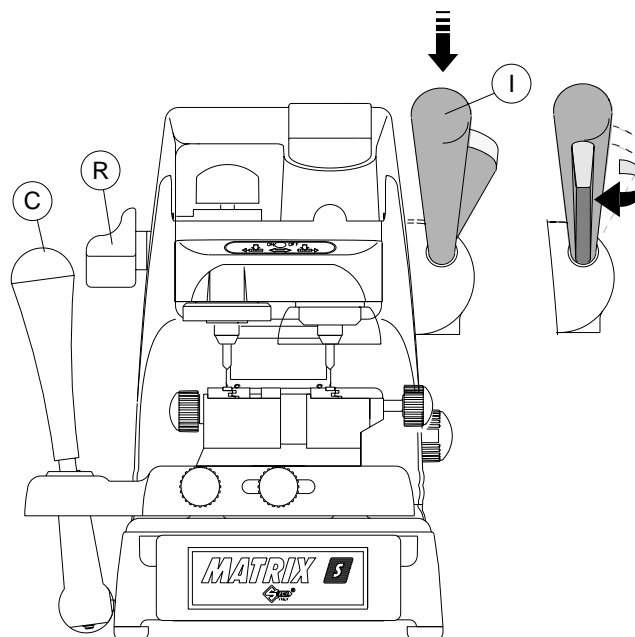

Fig. 5
- **lever (I) for vertical carriage (Z axis) (fig. 5)**
- **lever (C) X-Y axes (fig. 5)**
- **hand rest (R) (fig. 5)**